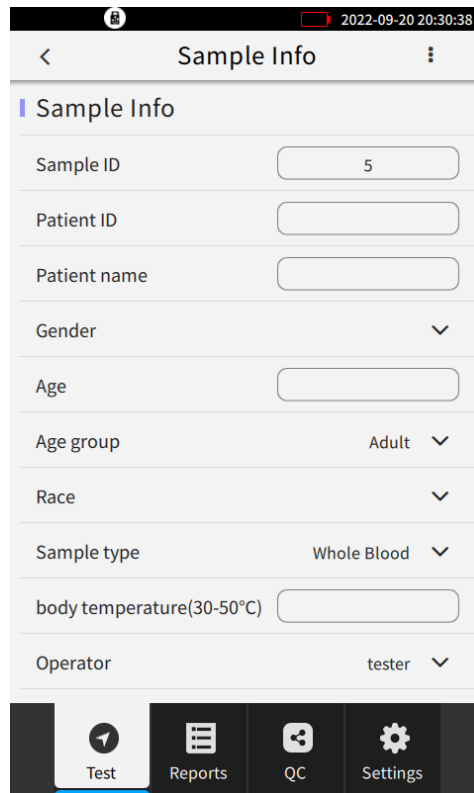

Figure 4-3
5) After the test starts, you can click [Sample Information] to fill in the sample information and click “ ⋮ ” [Save]; the interface shown in Figure: 4-3;